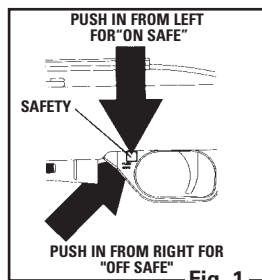

Fig. 1
- Push the safety from the left side all the way in (Fig. 1). The safety is not "On Safe" unless it is pushed all the way in and the RED ring around the safety is not showing.